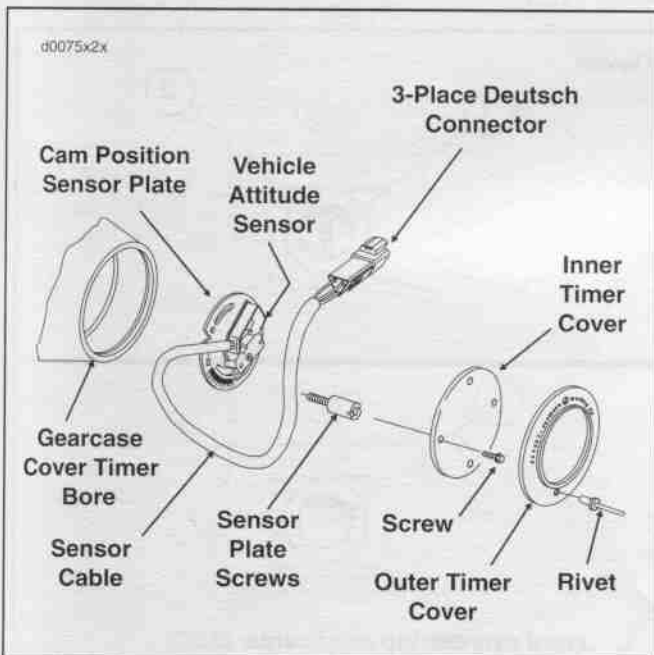

Figure 8-1. Camshaft Position Sensor Plate Assembly (Right Side View)
1. Locate outer timer cover at bottom of gearcase cover on right side of vehicle. See Figure 8-1.